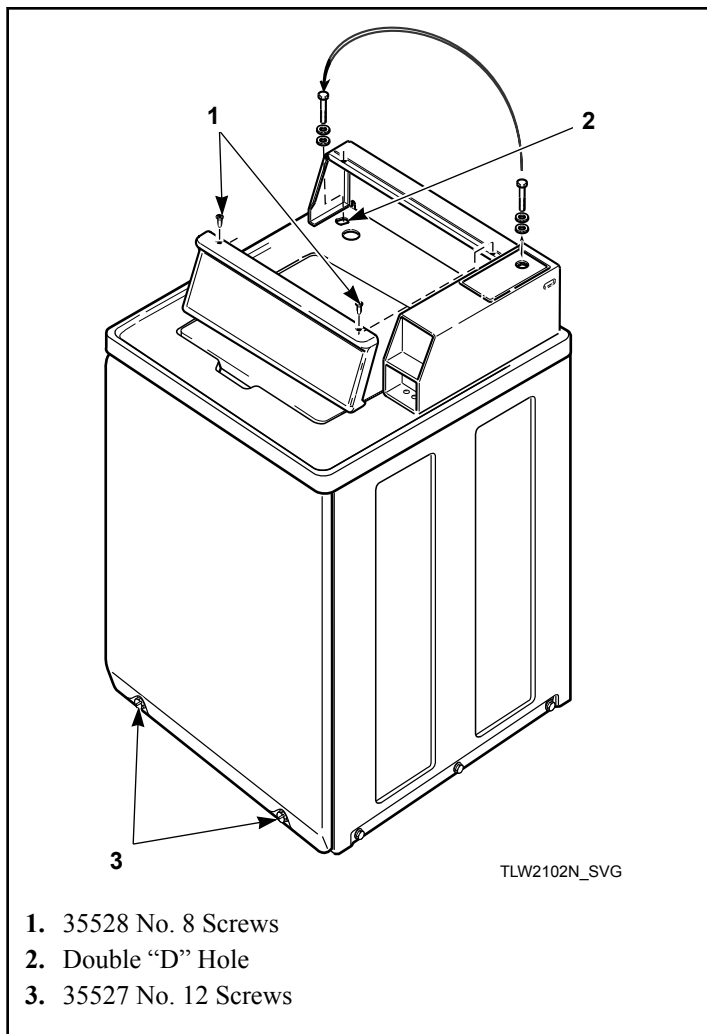

Figure 14
- Remove the Phillips head screw from service door (refer to *Figure 14*).